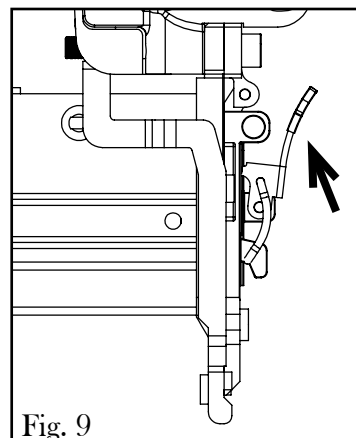

Fig. 9
5. Close the plate pressing latch (Fig. 9).
1. Open the plate pressing latch (Fig. 9).